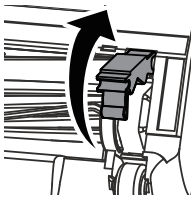

Fig.23
- Ensure the vacuum cleaner is OFF. Turn unit over to access the brush roll, unlock the brush roll tab with flat head screwdriver or similar tool as illustrated (Fig.23).